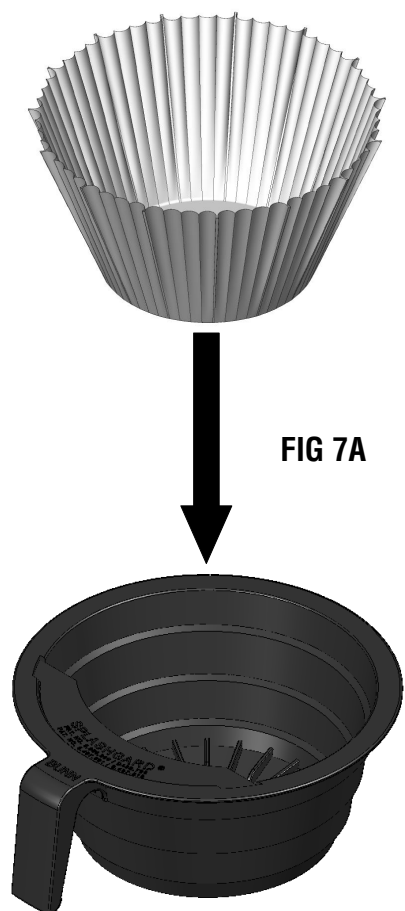

FIG 7A
2. Insert a BUNN filter into the funnel. (FIG 7A)